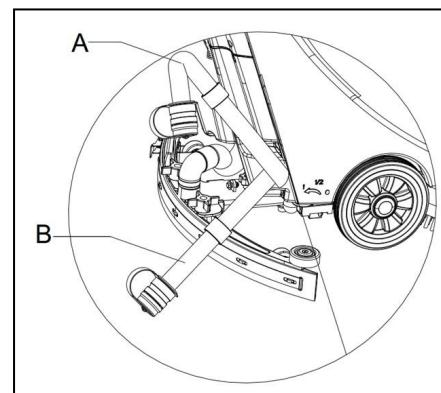

Figure 13
2. By using the squeegee handle (14), lift the squeegee.
4. Grasp the handlebar (2) and gently incline the machine backward until the guide wheel touches the floor. (For docking of the machine please refer to the procedures in the stopping of the machine section.)
5. Take off the draining hose from the fixation clip, bend the top end of draining hose (as shown in A, Figure 13), and then open the cover of draining hose, lower draining hose to a low level or on the ground to drain the water. Alternatively, directly place draining hose to a low position or on the ground to make the water outlet face downward (as show in B, Figure 13), and then twist open the water draining lid to drain off the wastewater in the tank. After draining is completed, use pure water to cleanse the inside of recovery tank.
When draining the wastewater, the vacuum tube for waste must be folded or lowered to a lower position (as shown in Figure 13 A or B), and then open the lid of the vacuum tube for waste to drain the water. Do not make the outlet of the vacuum tube for waste face upward to drain the water vertically. This is to avoid wastewater spilling onto the operator.